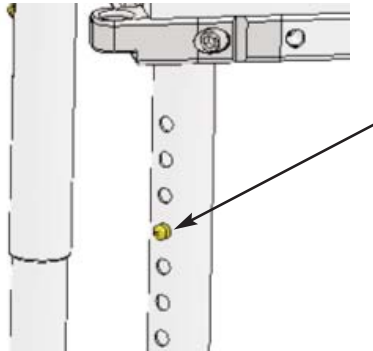

Figure 22
**A Leg Height Adjustment:** When making height adjustments to any of the legs, make sure that the brass buttons are fully engaged into the outer legs. If pushed too hard the button could become stuck inside the inner leg (Contact NuprodX, Inc. if this occurs). Leg height adjustment should only be made before transferring the user into the chair (Refer to Figure 22).